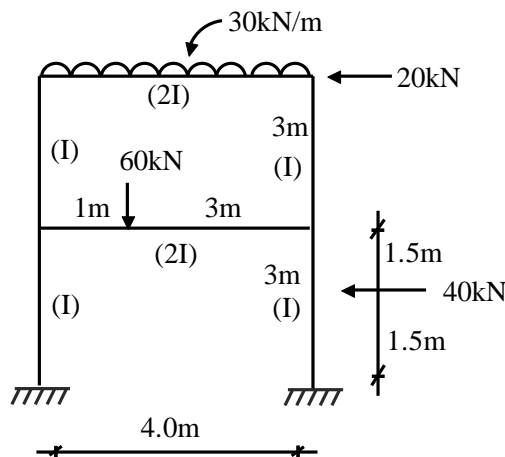

Fig:2
2. Analyse the frame shown in fig : 2 and draw its BMD. Use Kani's method. 14